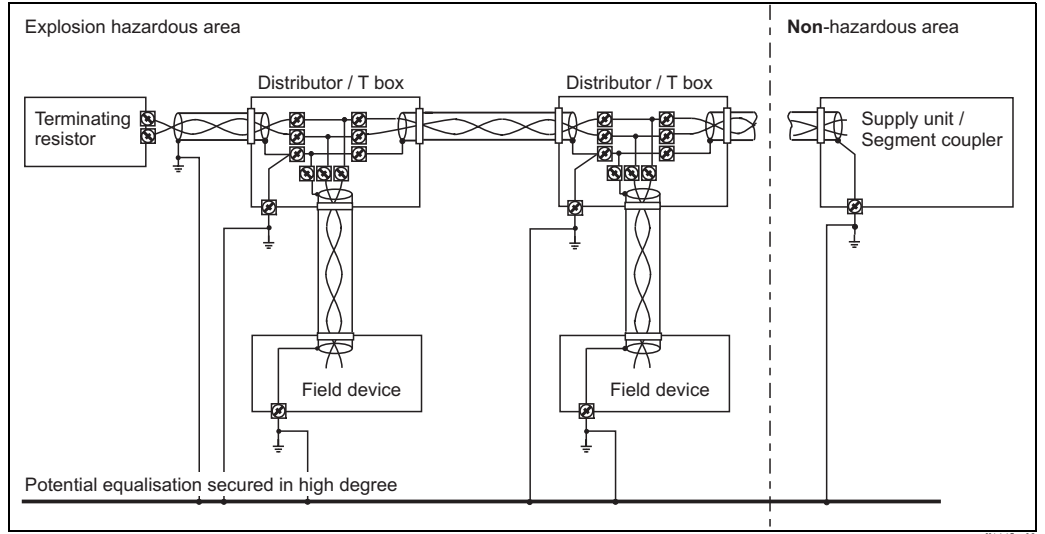

Fig. 3
- For earthing the screen see the following figure: 3 and 4.